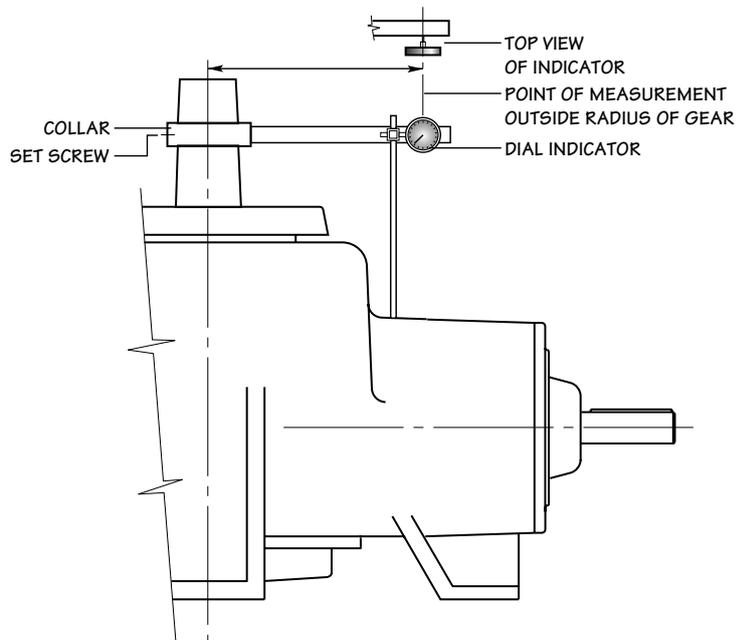

Figure 5 – Gear Backlash Measurement
- With the "X" marked tooth on the pinion gear engaged between the two "X" marked teeth on the ring gear, check the backlash with a dial indicator as shown in **Figure 5**. Lock the pinion shaft against rotation. The amount of movement of the fan shaft, measured at a distance equal to the outside radius of the ring gear is the backlash. Obtain backlash setting by adjusting ring gear axially by removing or adding shims (420) at bottom bearing cap.